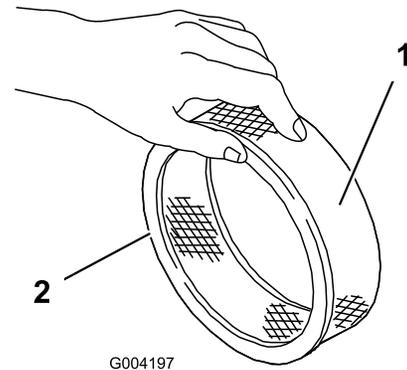

Figure 28
5. Inspect the paper filter for tears, an oily film, and damage to the rubber seal (Figure 28).
1. Carefully slide the foam pre-filter onto the paper filter (Figure 28).